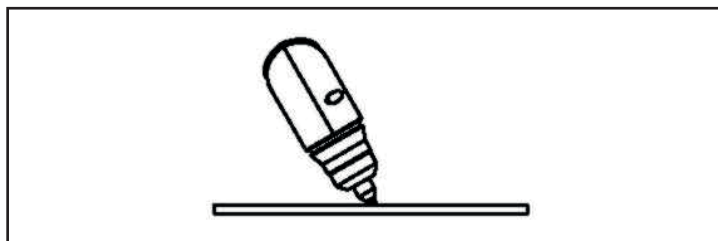

Figure 16
- For piercing, angle the torch slightly to direct sparks away from the torch until the pierce is complete - Fig. 16